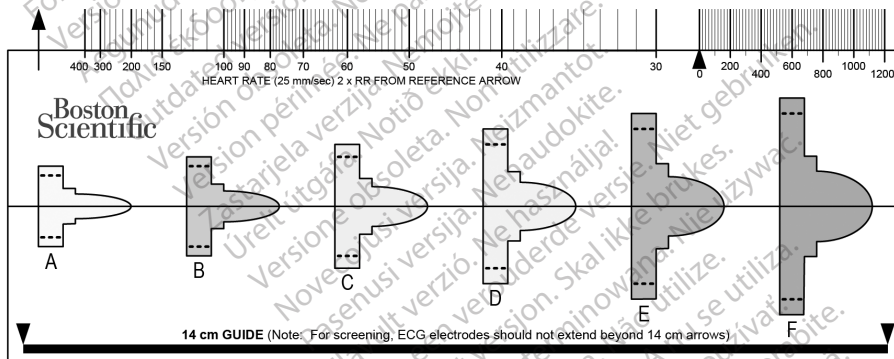

Figure 1. Patient Screening Tool
The patient screening tool, Model 4744 (Figure 1 Patient Screening Tool on page 18) is a customized measurement tool made of transparent plastic printed with colored profiles. Each colored profile is assigned a letter (A,B,C,D,E,F) for ease of reference. The profiles are designed to ensure appropriate device performance by identifying signal characteristics that may lead to unsatisfactory detection outcomes for a patient before implant. The patient screening process is completed in three steps: (1) Collecting the surface ECG, (2) Evaluating the surface ECG and (3) Determining an acceptable sense vector.